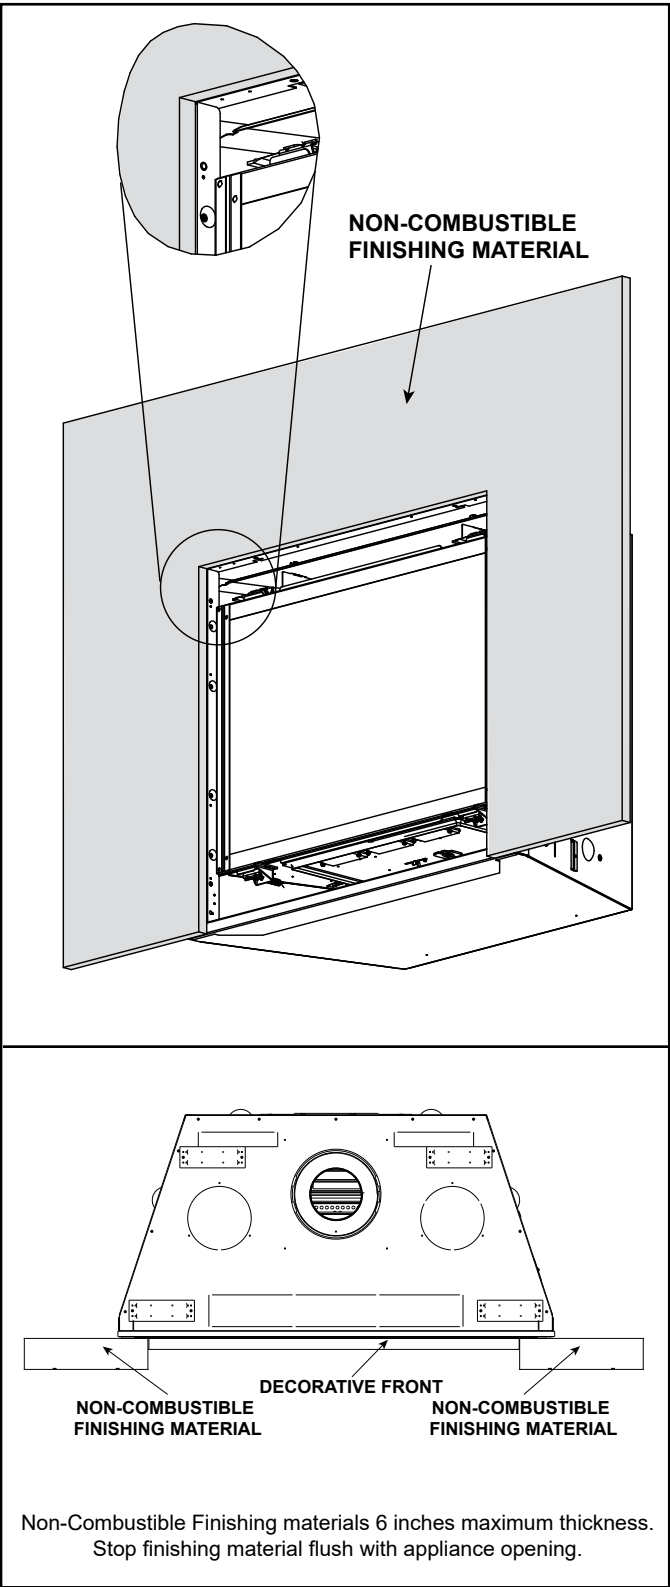

Figure 10.15 Inside Fit Method
- B. Finish material 0-6 inch thick: Use this method with Inside fit fronts. Finishing strips not required. See Figure 10.15.